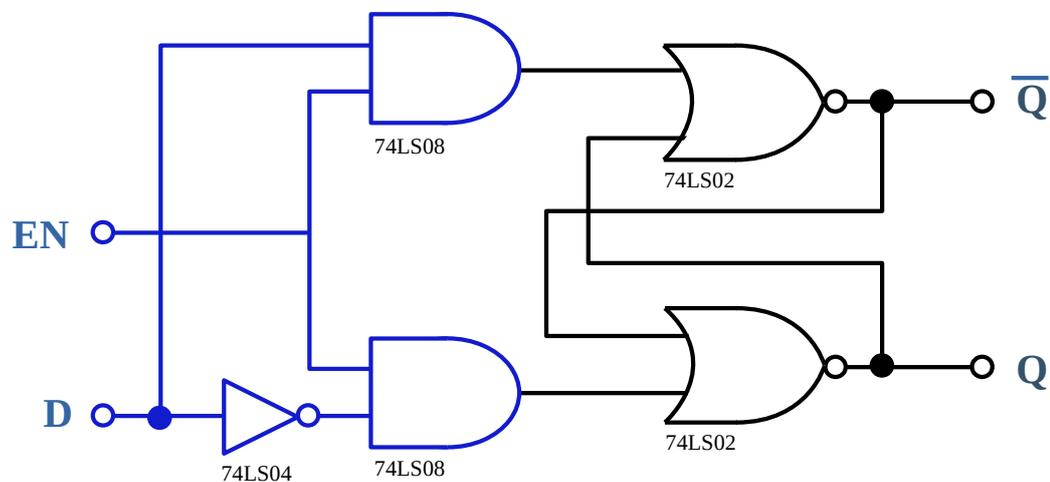

Figure 55: Gated D-latch Flip-flop
The D-latched flip-flop, illustrated in Figure 55, may be considered as a one-input synchronous SR latch. The design exploits the fact that, in the two active input combinations (01 and 10) of a gated SR latch, **R** is the complement of **S**. The low state of the enable signal produces the inactive "11" combination.
1. Draw the D-latch flip-flop as illustrated in Figure 55. Select appropriate devices to generate a complete truth table for the device. Hint (use a logic toggle for the EN). Set either of the inputs to a 1 before starting the simulation. On the diagram make the text in the labels: 0.17 inch (4.3mm) in height, blue in and use bold effect.